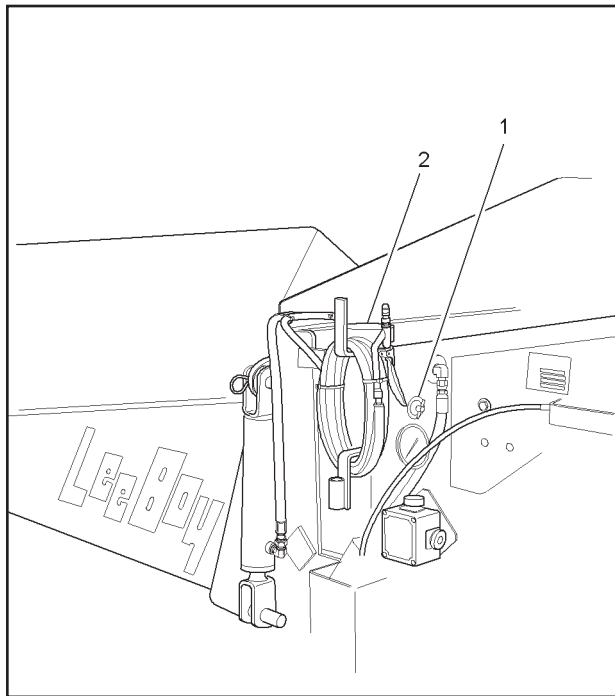

FIGURE 4-16. HYDRAULIC OIL TANK
Check the hydraulic oil level daily by removing the petcock on the reservoir (Figure 4-16, item 1). Check the oil level when the hydraulic oil is at normal operating temperature only.
1. Stop the engine. Allow the hydraulic oil to cool, until it is at a warm temperature only. Slowly loosen, and then remove, the hydraulic oil reservoir filler cap (Figure 4-16, item 2). Put a clean, lint free cloth over the reservoir fill tube opening and secure in place with tape.
The oil strainer is mounted in the oil filler opening under the filler cap (Figure 4-16, item 2).
5. Fill the hydraulic oil reservoir with the correct, filtered hydraulic oil until oil flows from the petcock (Figure 4-16, item 1).